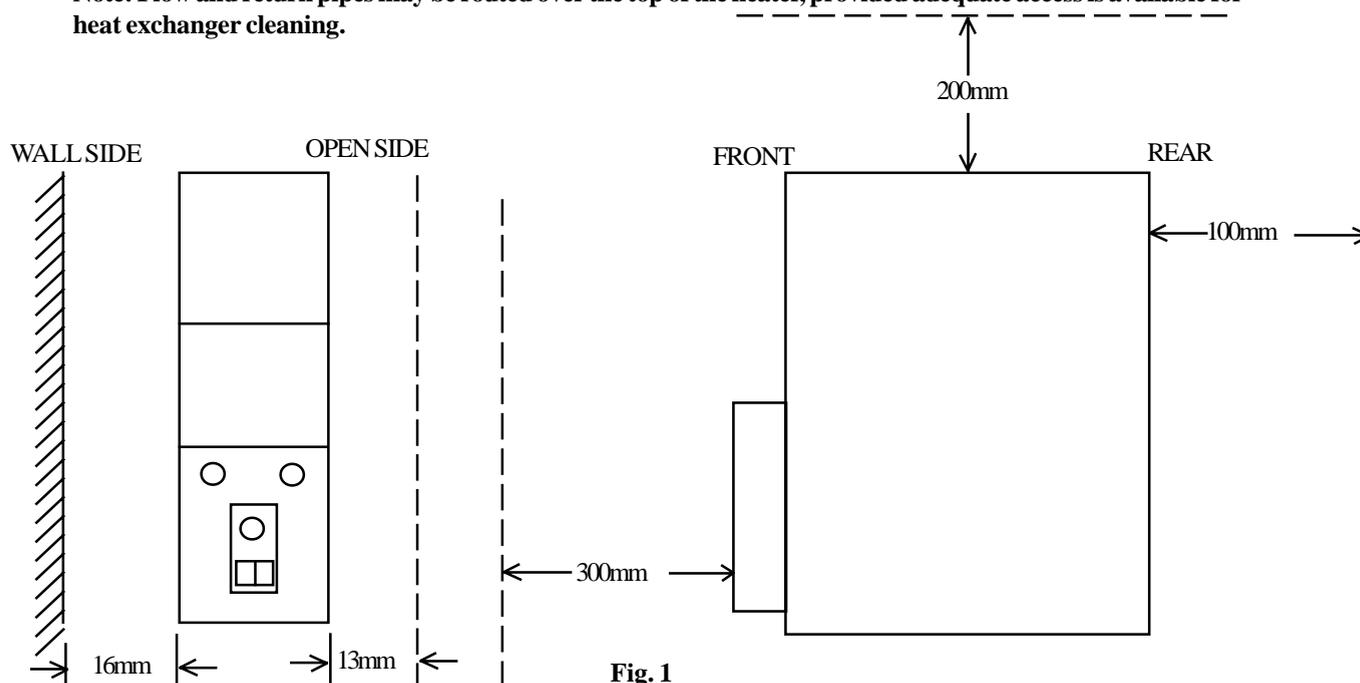
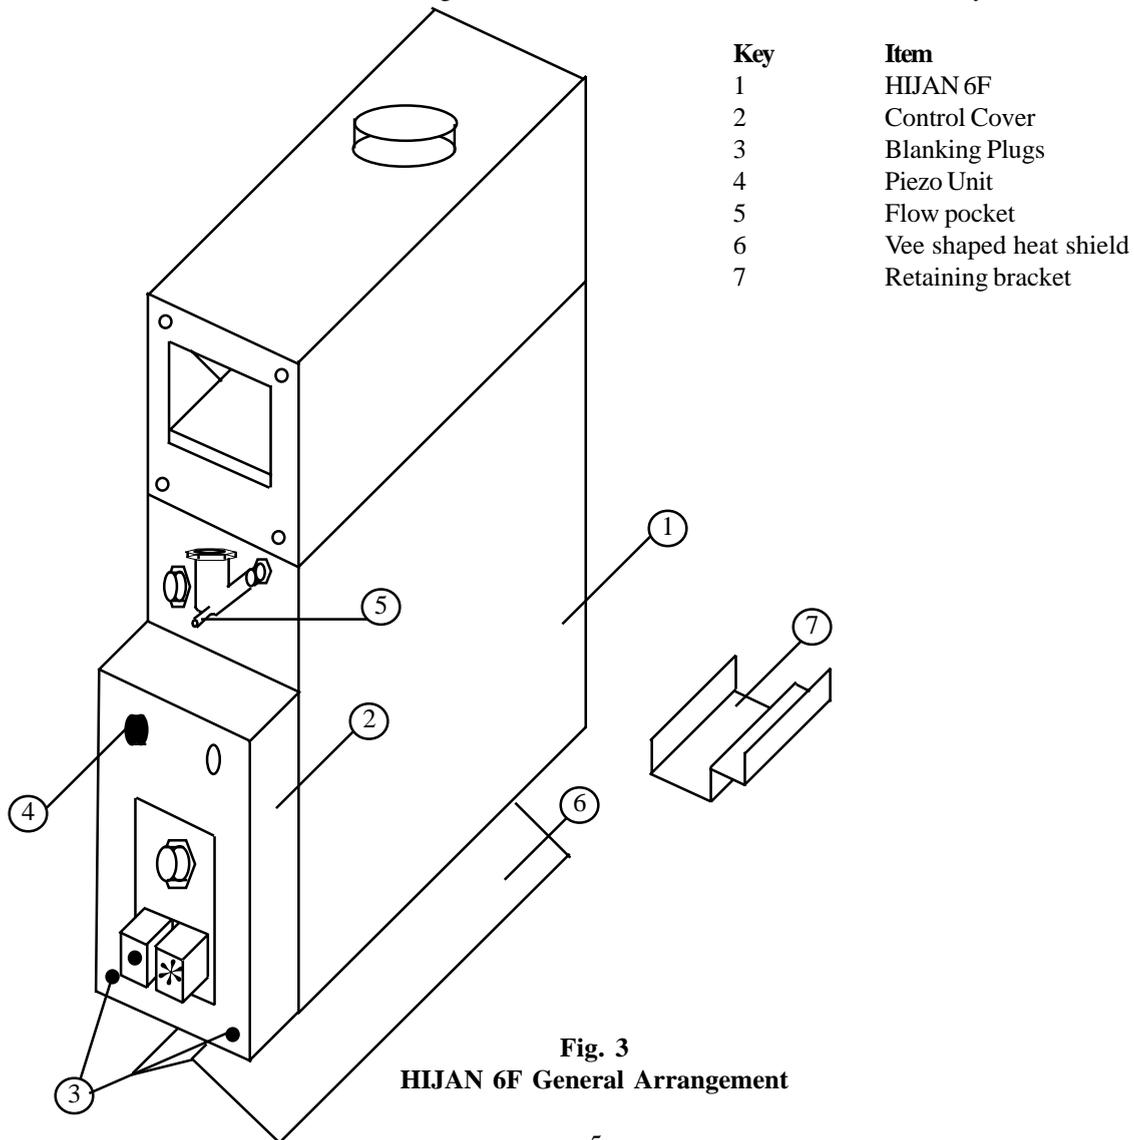

Fig. 1
Fig. 3
Referring to Fig. 3 for component identification, Para 2.6 and Fig. 1 for minimum installation clearances
Referring to Fig. 3 position the appliance on the floor and mark the position for the floor fixing holes through the two front feet. Drill and plug the fixing points as necessary, and secure the appliance with suitable screws. Insert the vee-shaped heatshield (item 6) , with the apex uppermost, between the front feet and engage onto the four feet members.
4.3.2 Referring to Fig. 3, fit and secure the mounting bracket to heater using screws fitted at 4.3.1, ensuring that the free slots on the mounting bracket are to the front of the heater.